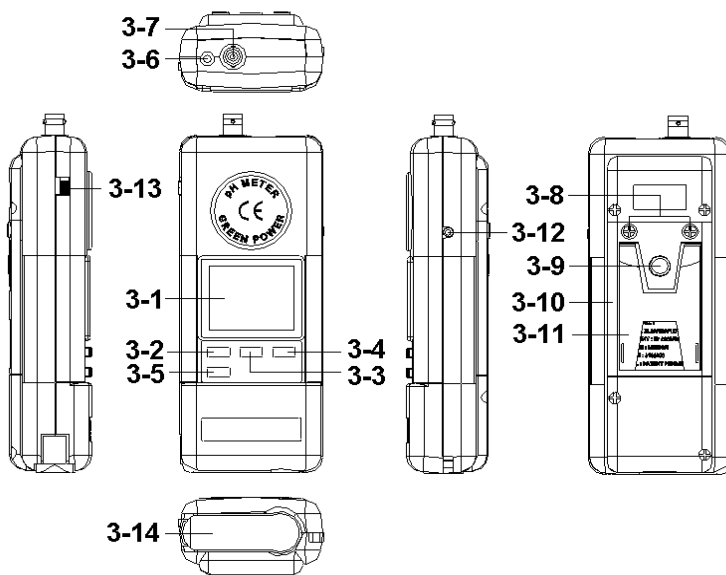

Fig. 1
Slide the " Power type switch " (3-13, Fig. 1) to the " G " position, the meter will offer the power source from the Handy generator (Green power), battery is no need.
- 1) There is a " Power generator's handle " (3-14, Fig. 1) on the bottom of the housing case.
Install the DC 9V battery into the " Battery compartment " (3-10, Fig. 1)
Slide the " Power type switch " (3-13, Fig. 1) to the " B " position, the meter will offer the power source from the battery.
- 1) Connect the pH ELECTRODE to the " pH BNC Input Socket " (3-7, Fig. 1).
- 2) Power on the instrument by pressing the " Power Button " (3-2, Fig. 1).
- * If intend to make operation under the ATC (Automatic temperature compensation, it should prepare an optional Temp. probe TP-07, plug the Temp. probe's plug into the " ATC Probe Input Socket " (3-6, Fig. 1) and insert the Temp. sensing head into the measurement solution, the lower LCD display will show the temperature value of solution.
- 1) Power on the instrument by pressing the " Power Button " (3-2, Fig. 1).
- 2) Press the " FUNCTION Button " (3-3, Fig. 1) continuously at least two seconds until Display show the " mV " indicator then release the button, it is ready for the " mV " (ORP) measurement.
- 3) Connect the ORP ELECTRODE to the " BNC Input Socket " (3-7, Fig. 1).
** During the Display show the " mV " indicator, press the " FUNCTION Button " (3-3, Fig. 1) continuously at least two seconds until Display show the " pH " indicator then release the button, the meter will return to " pH " measurement.*
- 1) Plug the " Optional ATC Temp. Probe, TP-07 " into the " ATC Probe Input Socket " (3-6, Fig. 1).
Press the " Hold Button " (3-3, Fig. 1) will hold the measured value & the LCD will indicate a " HOLD " symbol on the display during the measuring.
- * The data record function records the maximum and minimum readings. Press the " REC. Button " (3-4, Fig. 1) to start the Data Record function and there will be a " REC " symbol on the display.
- a) Press the " REC. Button " (3-4, Fig. 1) once, the " REC Max " symbol along with the maximum value will appear on the display.
If you intend to delete the maximum value, just press the " Hold Button " (3-3, Fig. 1) for a while, then the display will show the " REC " symbol only & execute the memory function continuously.
- b) Press the " REC. Button " (3-4, Fig. 1) again, the " REC Min " symbol along with the minimum value will appear on the display.
If you intend to delete the minimum value, just press the " Hold Button " (3-3, Fig. 1) for a while, then the display will show the " REC " symbol only & execute the memory function continuously.
- 1) Connect the pH ELECTRODE to the " pH BNC Input Socket " (3-6, Fig. 1).
- * Press once the two " CAL Buttons " (3-3. 3-4, Fig. 1) together, the upper display show value of " 7.00 " and the lower display show the text " CAL " .
- * Press the " ENTER Button " (3-4, Fig. 1) once, the upper display (7.00) will flash for around 6 seconds then stop to flash.